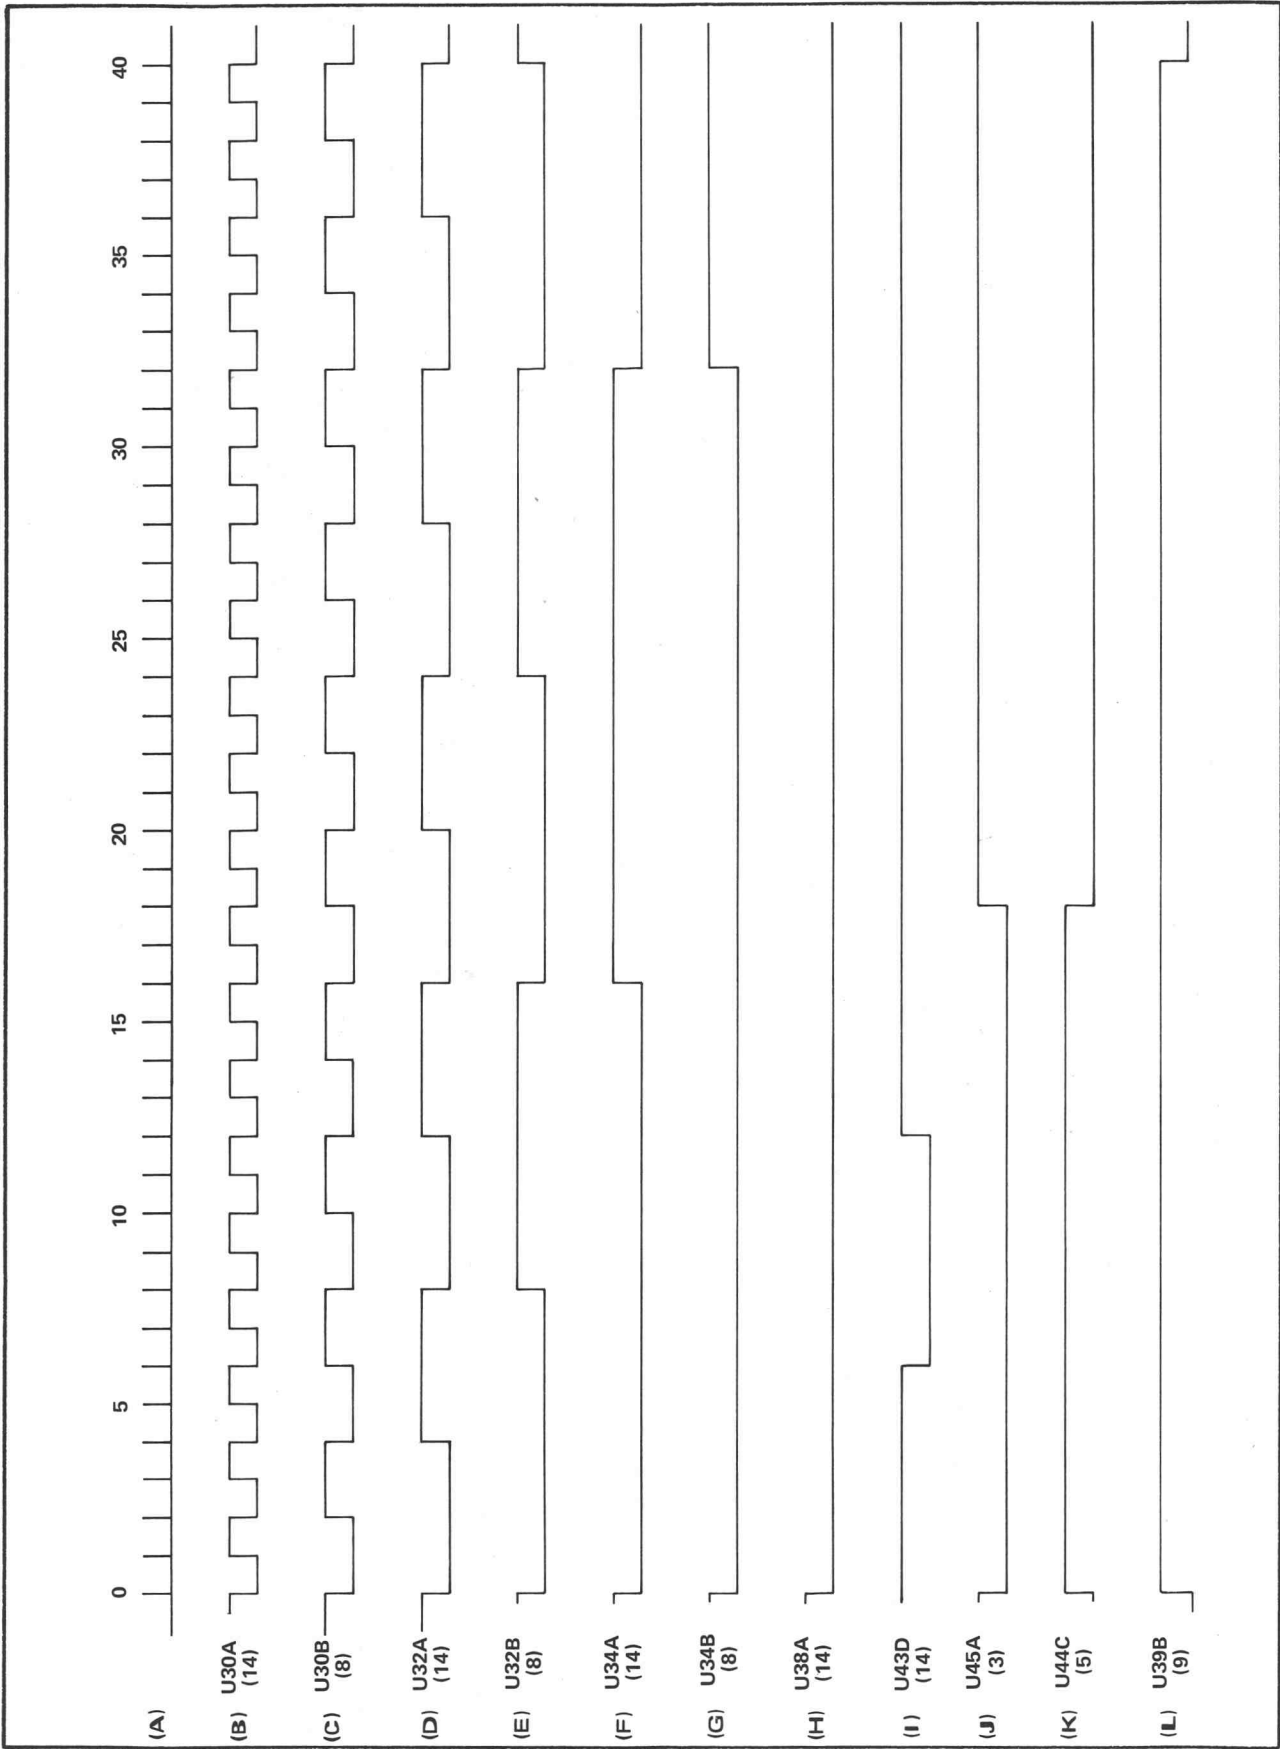
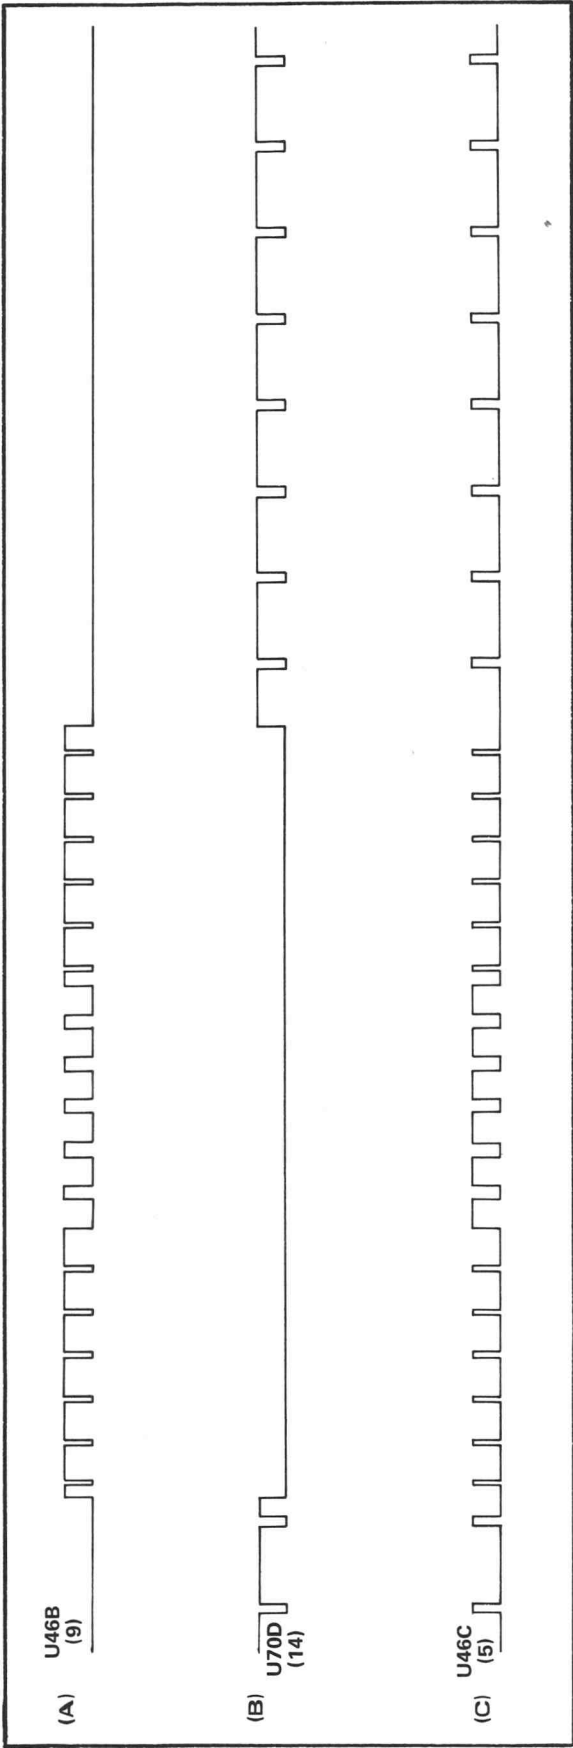

Fig. 3-6. Waveforms illustrating the outputs of the binary counters (pins 8 and 14) and four waveforms that are developed from them.
Fig. 3-9. Waveforms illustrating the inputs and output of U46C.
The binary counters used in the Read Raster circuit are J-K flip flops and the function of the pins have been previously explained under the sub-title of General in this circuit description. The clock pulse that triggers the one-shot multivibrators is inverted by U3E, and it triggers the counters. The pulse is applied to pin 2 of U30A, the first flip flop in the binary sequence. Table 3-2 is a truth table for the counters and Fig. 3-6 illustrates the time relationship of the output waveforms of the counters, which are used to develop other waveforms in the Read Raster circuit. Also illustrated in Fig. 3-6 are four of the waveforms that are developed from the counter output.
When the binary count becomes 0, the output of the 512 counter goes to the 0 state and triggers J-K flip flop U39B. Prior to the occurrence of the 0 count, U39B has been preset by the output of U43A. Because of the slight delay in the counter, it is released prior to the trigger from the 512 counter. Therefore at the 0 count, when U39B is triggered, pin 9 goes to the 1 state (see Fig. 3-6 L) and remains there until U39B receives another preset pulse from U43A. The two inputs to U43A are from pin 9 of counters 8 and 32. Therefore when pin 8 of counter 8 and 32 are in the 1 state, both inputs to U43A will be in the 0 state and the output of the gate will go the 1 state. Pin 10 of U39B will then receive a preset pulse and pin 9 of U39B will go to the 0 state ending the vertical blanking pulse. The vertical blanking pulse is terminated at count 40 (see Fig. 3-6 E, G, and L and Table 3-2). Pin 7 of U39B is the clear pin and is connected to the External Composite Blanking In circuit. Since no external signals are being coupled into the Read Raster circuit, the output of U76F remains in the 0 state.
At the beginning of the vertical blanking pulse, pin 9 of U39B goes to the 1 state. This positive-going pulse is coupled through a differentiator, C43/R43, and appears as a positive-going spike on pin 1 of U45A. U45A and U44C are connected in a flip flop configuration. A 1 on the input of U45A causes the output, pin 3, to go to the 0 state (see Fig. 3-6 J). The output of U45A is coupled to pin 6 of U44C, a three input gate. To determine the condition of output pin 5 of U44C, it is necessary to first determine the condition of the other two inputs. Pin 7 of U44C is connected to the output of U44A, pin 3. One of the inputs to U44A is from inverter U48F, which is connected to the 525/625 switch. Since the switch is in the 525 position, a ground is connected to the input of the inverter and the output of the inverter is in the 1 state. Therefore, pin 2 of U44A is in the 1 state and the output of the gate will be in the 0 state regardless of the condition of the other two inputs. Pin 7 of U44C is therefore in the 0 state. Pin 8 of U44C receives its signal from pin 5 of U45B, another gate. The inputs of U45B are from pin 13 of binary counter 16 to pin 6 of U45B and from pin 8 of binary counter 2, through inverter U9F to pin 7 of U45B. Pin 13 of counter 16 is in the 1 state at this time (see Fig. 3-6 F), therefore the output of U45B will be in the 0 state. This establishes a 0 state at all three inputs of U44C and causes output pin 5 to assume the 1 state. A 1 on pin 2 of U45A keeps output pin 3 in the 0 state. Since pin 1 of U45A is capacitively coupled to pin 9 of U39B, it returned to the 0 state at the completion of the positive spike which occurred at the beginning of vertical blanking.
To cause the multi to flip to the other state, it must receive a 1 on pin 8 of U44C. This means the two inputs to U45B must be in the 0 state, which will occur when pin 8 of binary counter 2 and pin 14 of binary counter 16 are in the 1 state at the same time. This condition exists at count 18 (see Fig. 3-6 C and F). At this time pin 5 of U45B goes to the 1 state, causing the output of U44C to go to 0 state. Both inputs of U35A now have zero applied; therefore, the output of U45A will go to the 1 state (see Fig. 3-6 J).
One of the outputs of U45A (pin 3) is coupled to U44B (pin 13), and the output of U44B is coupled to a flip flop consisting of U90C/U43D. One way of determining the state of the multi at this time is by looking at the input to U90C (pin 7). The signal to U90C (pin 7) is received from U70C (pin 8). The two inputs to U70C are from pin 13 of counter 4 and pin 9 of counter 8. By referring to Table 3-2 or Fig. 3-6 D and E, it can be determined that the inputs of U70C are both in the 0 state. Therefore, the output of U70C is in the 1 state, which applied a 1 to the input of U90C causing U90C (pin 5) to assume the 0 state. U43D (pin 14) must therefore be in the 1 state; see Fig. 3-6 I. To cause the multi to change states, U43D (pin 12) must receive a 1 from U44B (pin 9). The inputs for U44B are received from pin 8 of binary counter 8, from U45A (pin 3), and from U43C (pin 8). By referring to Fig. 3-6 E and J, it can be determined that U44B pins (10) and (13) both are
in the 0 state at this time. Therefore, if U44B (pin 12) receives a 0 U44B (pin 9) will go to the 1 state. U44B (pin 12) receives its signal from U43C (pin 8), and the two inputs to U43C are from U90B and U45C. To produce a 0 at U43C (pin 8), one of its inputs must be in the 1 state. U43C (10) receives its signal from U90B (9), and one of the inputs to U90B is from the 525/625 switch through inverter U48F. Therefore, as previously explained for U44A (3), the output of U90B will remain in the 0 state. The other input to U43C is from U45C (8). The inputs to U45C are from pin 8 of binary counter 2 through inverter U9F to U45C (10) and from pin 13 of binary counter 4 to U45C (9). It can be determined, by referring to Fig. 3-6 C and D, that both inputs to U45C will be in the 0 state at count 6. This causes U45C (8) to go to the 1 state, producing a 0 at U43C (8). Now all the inputs to U44B are in the 0 state; therefore, U44B (9) will assume the 1 state causing the multi to flip (see Fig. 3-6 I). U43D (14) will remain in the 0 state until one of the inputs to U90C assumes the 1 state, at which time the multi will again change states.
One of the inputs to U90C is from U90A (3), which receives one of its inputs from the 525/625 switch producing a 0 at U90A (3). The other input to U90C is from U70C (8) and as previously explained, U70C receives its inputs from binary counters 4 and 8. When both inputs to U70C are in the 0 state, U70C (8) will assume the 1 state and flip the multi. By referring to Fig. 3-6 D, E, and I, it can be determined that the multi changes states at count 12.
The signal on U46B (9) is coupled U46C (8), a three input gate. Also coupled into U46C is the signal from the Composite Blanking In circuit consisting of U3D/Q140, through an inverter (U76F) to U46C (6). Since no external signals are being coupled into the Read Raster circuit, the output of U76F will be in the 0 state. The other input to U46C is from U70D (14) to U46C (7). U70D is a two input gate whose inputs are from U44C (5) (see Fig. 3-6 K) and the horizontal sync pulses from the horizontal sync multi. The input and output waveforms of U46C are illustrated in Fig. 3-9 A, B, and C. U46C (5) is connected to U6C (10). The other input to U6C is from the External Composite Sync In circuit and, with no external signals coupled in, U6C (9) is in the 0 state. Therefore the signal from U46C (5) is inverted through U6C and appears as composite sync on U6C (8).
The pulse developed at U44C (5) (see Fig. 3-6 K), which is equivalent in time to the time duration of the vertical sync pulse and the equalizing pulses, is coupled through amplifier Q70A, and is available at the output connector on the rear panel as a vertical drive signal. The amplitude of the vertical drive signal out is from approximately +0.6 V to -5 V. The output of U44C (5) is also coupled to U70A (1), a two input gate. The other input of U70A is from U6A (3) in the external Composite Sync In circuit. With no external signals in, the output of U6A (3) remains in the 0 state; therefore, U70A acts only as an inverter to the signal from U44C (5). The output at U70A (3) is coupled through another inverter, U76B to the base of Q80 in the vertical ramp circuit. The vertical ramp circuit is identical in operation to the horizontal ramp circuit. The circuit is a miller integrator consisting of Q80 and U85. The timing capacitor and resistors are C80, R78, R79 and R81. Q80 is normally off and is turned on by the leading edge of the pulse from U44C (5). The transistor remains on for the duration of the pulse and then turns off. The timing capacitor is discharged during the on time of the transistor and charges during the off time. In 525 line operation, R78 is connected to ground through the 525/625 switch. When the Type 4501 is switched to 625 line operation, +3.75 volts is connected to R78 through the switch. This reduces the charging current to C80, thereby increasing the time duration of the vertical ramp. The vertical ramp position control is R85. The vertical ramp is coupled to the X-Y circuit and is used to scan the storage CRT.
The composite blanking signal out is developed by the pulse from the horizontal blanking multi and the pulse from pin 9 of J-K flip flop U39B (see Fig. 3-6 L). The signal on pin 9 of U39B is of the same time duration as the vertical blanking interval. Pin 9 of U39B is coupled to U147A (14), a three-input gate. The output of the horizontal blanking multi is coupled to U147A (2) and the other input to the gate is from the External Composite Blanking In circuit. With no external signals in, U147A (1) remains in the 0 state. During vertical blanking time, U147A (14) will be in the 1 state and the output of the gate in the 0 state. At the completion of the vertical blanking pulse, U147A (14) goes to the 0 state and the output of the gate (pin 3) inverts and follows the horizontal blanking multi output. The signal at U147A (3) is coupled through two inverters, U48A and U76D, to the base of Q62B. The composite blanking signal is then coupled through two amplifiers, Q62B and Q158, to the Composite Blanking Output connector on the rear panel of the instrument. This signal meets EIA Timing specifications.